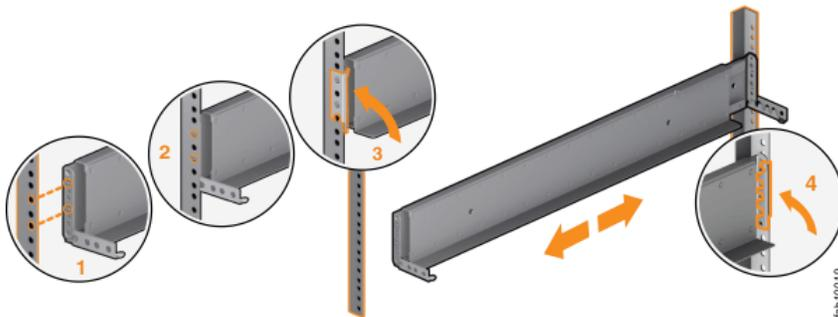

Figure 38. Closing the hinge brackets
9. Close the rear hinge bracket to secure the rail to the rack cabinet flange. (See Figure 38 on page 77.)
11. Close the front hinge bracket to secure the rail to the rack cabinet flange. See Figure 38 on page 77.